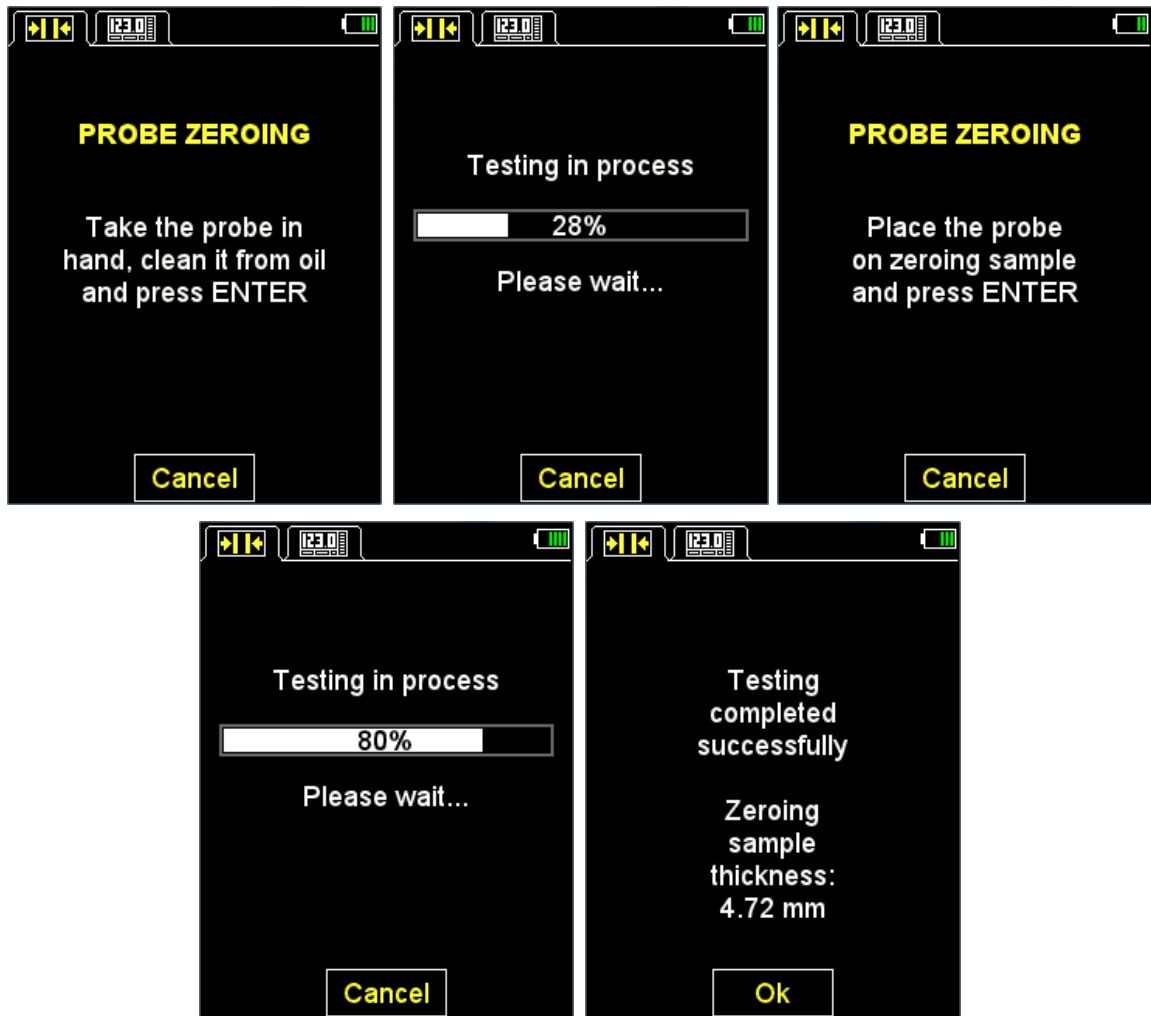

Figure 16
- Press the F2 key (OK). If the test is OK, then the instrument will enter the measurement mode, if the test failed, then the instrument will return to the main window of the **SETTINGS** mode.
- Appearance of the instrument’s displays during successful adjustment is presented on Figure 16.